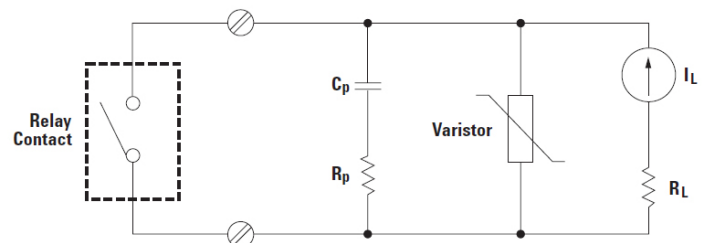

Figure 1. Suppression circuit for limiting surge voltage
You also can place clamps, a diode, a zener diode, a varistor, or a resistor/capacitor (RC) network in parallel with the load as a snubber or suppression circuit. In the next section, we'll take a closer look at RC networks and varistors (Figure 1).